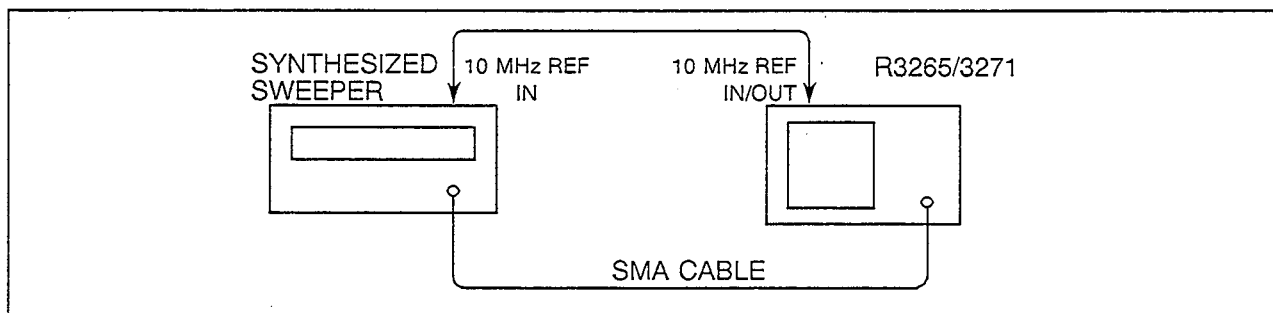

Figure 4-17 Input Attenuator Switching Accuracy Test Setup
- (2) Connect the equipment as shown in Figure 4-17.
- (3) Set the synthesized generator controls as follows: